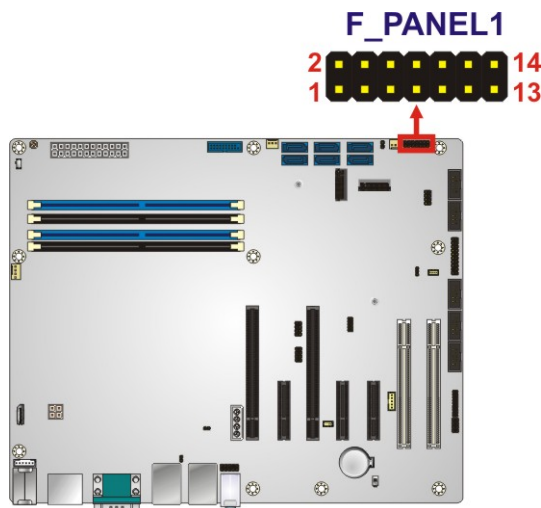

Figure 3-14: Front Panel Connector Location
- CN Location:** See **Figure 3-14**